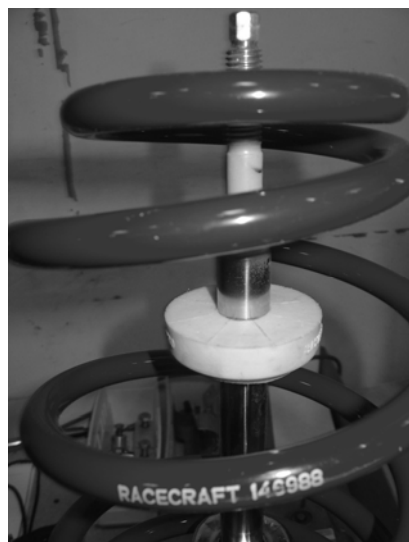
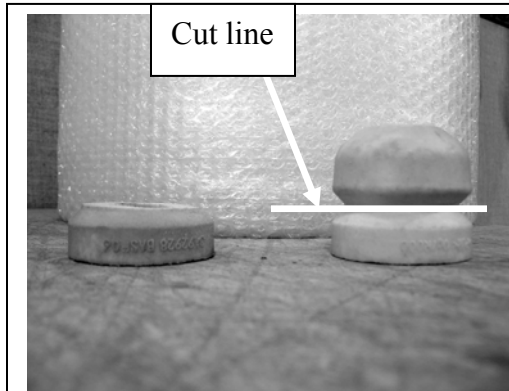

Figure 2
Figure 3
2. Remove the 21mm nut and the strut cap from the top of the stock strut. Be careful when you remove the bolt; sometimes the shock and spring will fall to the ground. (Figure 2)
4. Obtain the bump stop from the stock strut, and cut it with a hack saw at the line shown in Figure 3 (bump stop on the right in Figure 3 is before, and the one on the left after, the cut has been made).
5. Obtain the new shock and spring. Place modified bump stop over the shock (Figure 2).
6. Cover the new spring with the rubber boot. Place the spring over the new shock - NOTE ORIENTATION IN FIGURE 2 - and cover with the stock cap (Figure 2). Place this assembly in the spring compressor as you did for the stock strut. (Figure 3)